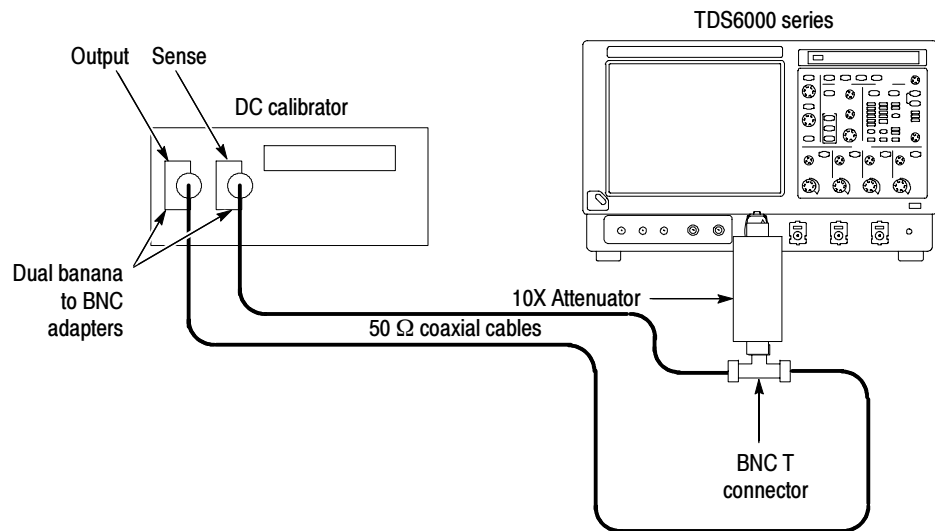

Figure 4-5: Initial test hookup
- Connect the output of a DC calibration generator through a dual-banana connector followed by a 50 Ω precision coaxial cable to one side of a BNC T connector. See Figure 4-5.
- Connect the Sense output of the generator through a second dual-banana connector followed by a 50 Ω precision coaxial cable to the other side of the BNC T connector. Now connect the BNC T connector to **CH 1** through a 10X attenuator and an adapter. See Figure 4-5.